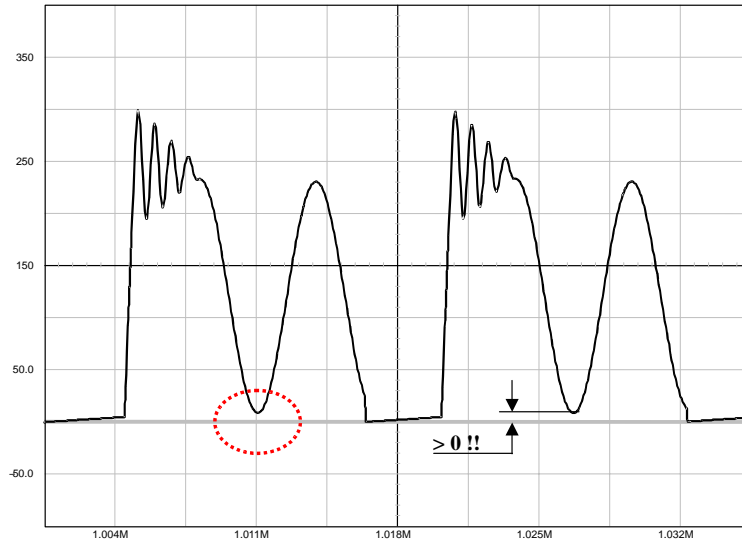

Figure 26. The Drain–Source Wave Shall Always be Positive . . .
1. In any case, the lateral MOSFET body–diode shall never be forward biased, either during start–up (because of a large leakage inductance) or in normal operation as shown by Figure 26.